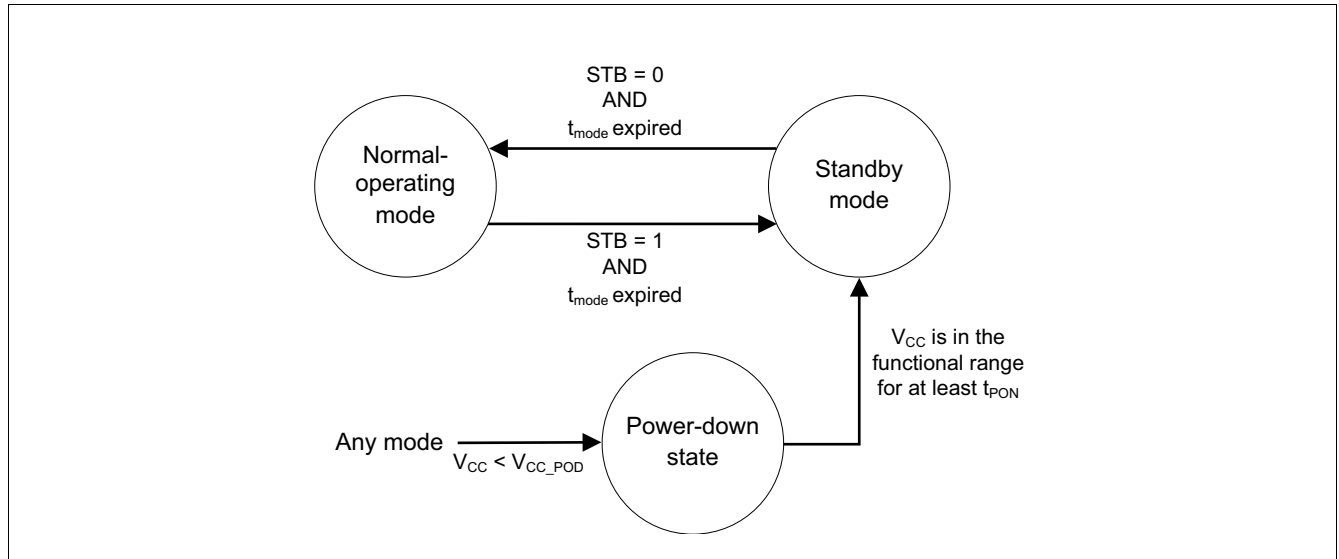

Figure 4 Mode state diagram
The device supports the following modes of operation, see Figure 4:
- If $V_{CC} > V_{CC_POD}$ and the STB pin is “low”, then the device enters normal-operating mode after t_{Mode} from standby mode, see Figure 4